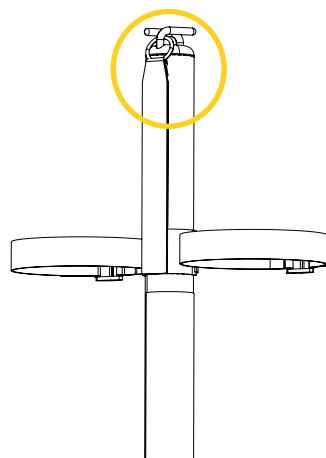

Figure 61: Installing the harness
6. Insert the center loop of the harness on the Techni-IV pole (Figure 61 A).
7. Hook the eyelet at the end of the harness into one of hooks at the top of the Techni-IV pole to install the harness (Figure 61 B).